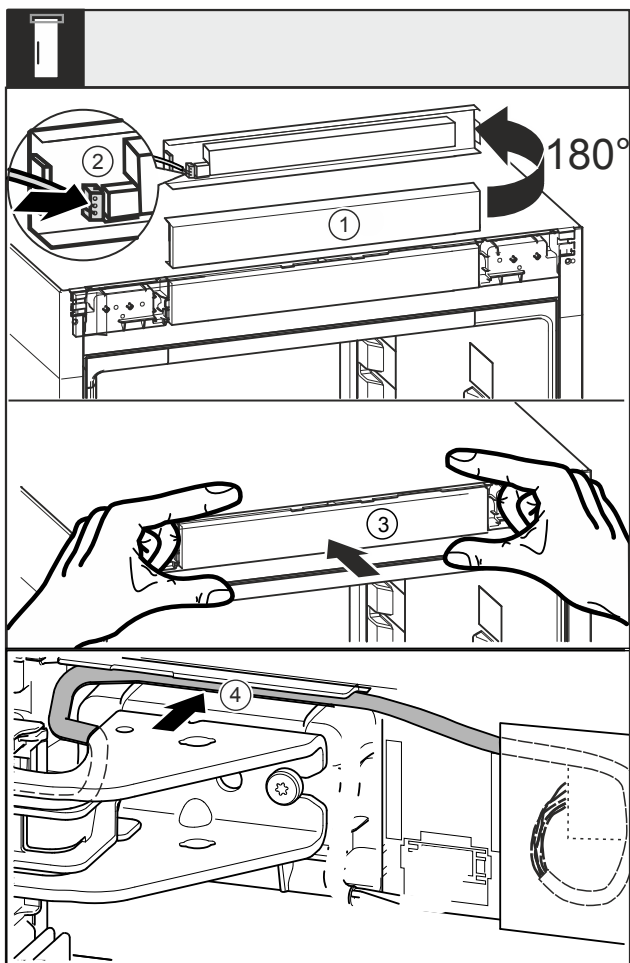

Fig. 46
- ▶ Turn the trim Fig. 46 (1) up by 180°.
- ▶ Engage the plug Fig. 46 (2) on the control panel trim.
- ▶ Re-engage the trim Fig. 46 (3) on the appliance.
- ▶ Lay the cable carefully in the guide Fig. 46 (4) above the top swap bearing block.